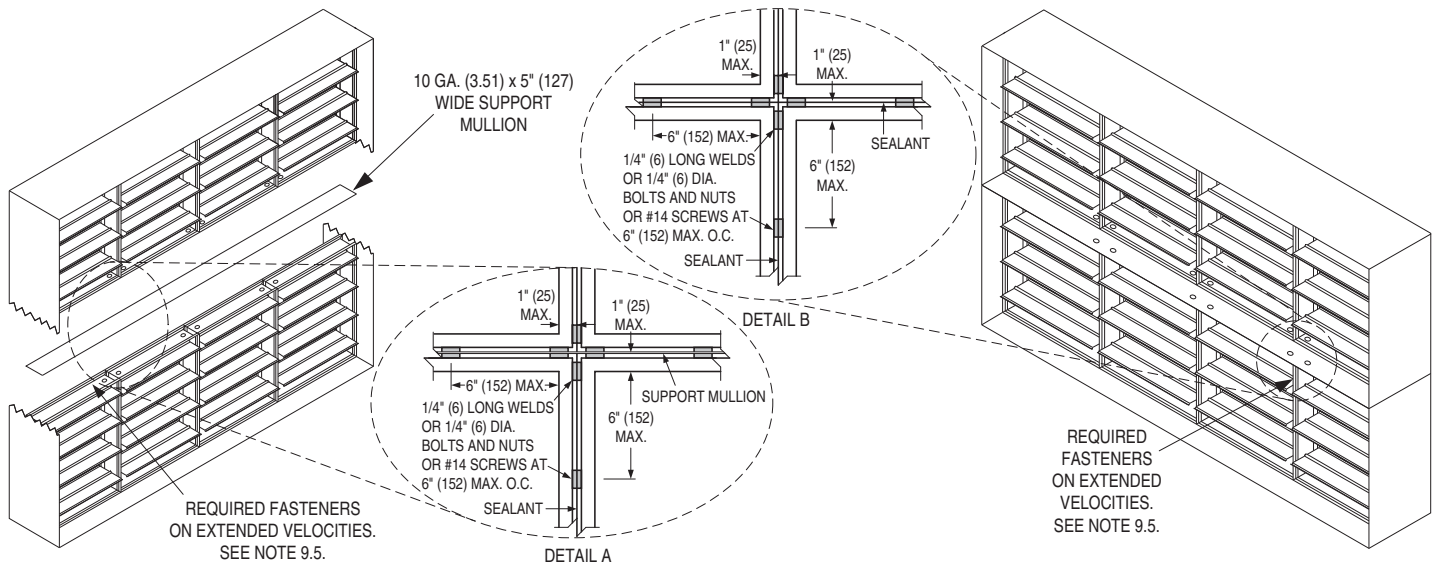

Figure 3. Single sleeve around outside and support mullion
1. In multiple assemblies of vertical or horizontal dampers, the frames shall be joined together on both sides of the damper using 1/4" (6) long welds, 1/4" (6) dia. bolts and nuts, or #8 sheet metal screws. Maximum 6" (152) on center.
2. Multiple section vertical and horizontal damper assemblies, two sections high (deep), require a 10 ga. (3.51) x 5" (127) flat mullion between the upper and lower sections (see Figures 3 and 5).